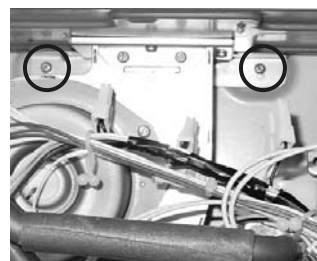

Figure 3
13. Remove the 4 screws connecting the heat exchanger to the casing. (Figure 3)
20. Install the 4 screws at the top and bottom of the heat exchanger to the casing. (Figure 3)